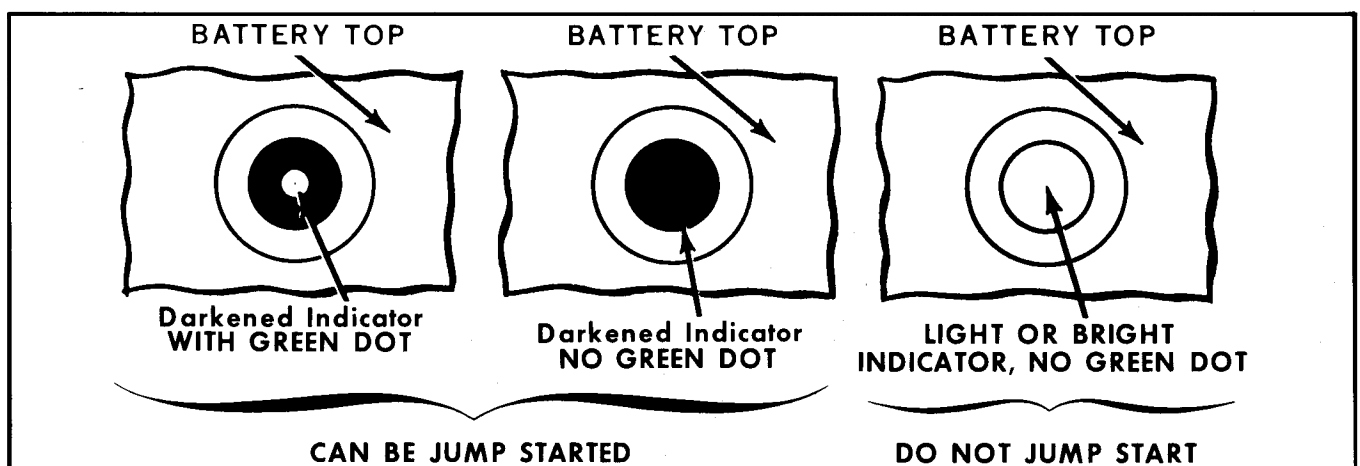

Figure 21—Charge Indicator Conditions
a. **GREEN DOT VISIBLE**—Figure 21. If the charge indicator is dark and has a green dot in the center, the battery is sufficiently charged.
b. **DARK—GREEN DOT NOT VISIBLE**—Figure 21. If the charge indicator is dark and the
c. **LIGHT**—Figure 21. If the charge indicator has a light or bright center and a cranking complaint has been experienced, replace battery (**DO NOT** attempt charging or testing when indicator has a light or bright center).